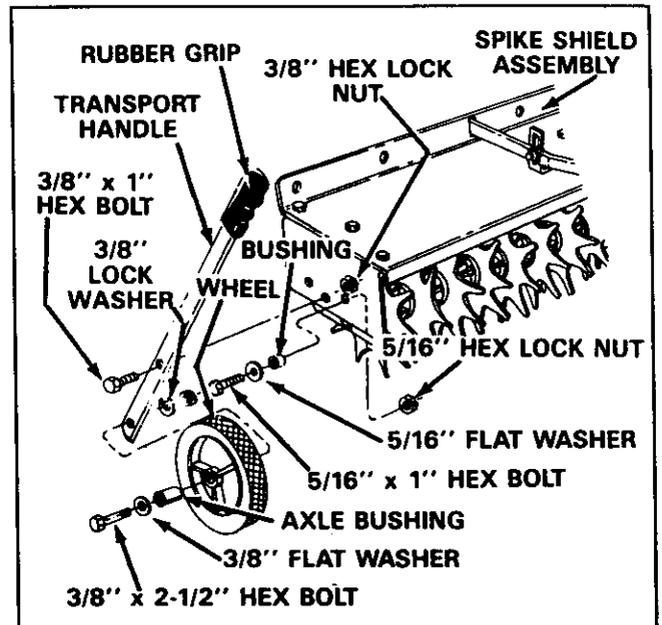
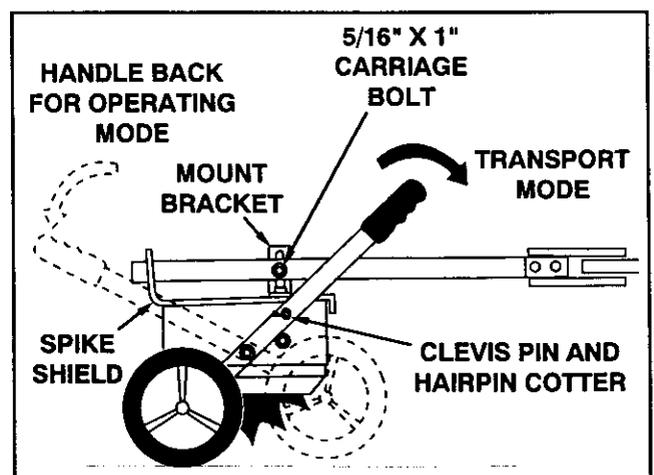

FIGURE 3
FIGURE 4
- Assemble a bushing to the bottom front hole in each end plate on the spike shield assembly. Use two 5/16" x 1" hex bolts, 5/16" flat washers and 5/16" hex lock nuts. **Tighten securely.** See figure 3.
- Assemble a wheel to the end hole in each transport handle using a 3/8" x 2-1/2" hex bolt, 3/8" flat washer, axle bushing, 3/8" lock washer and 3/8" hex lock nut. **Tighten securely.** See figure 3.
- Install a rubber grip on each transport handle. See figure 3.
- Assemble a transport handle with wheel to the bottom middle hole in each end plate as shown in figure 3. Use a 3/8" x 1" hex bolt and 3/8" hex lock nut. **Tighten**, but do not over tighten; the handle must pivot freely.
- Move each transport handle forward until it rests against the bushing assembled in figure 3. Lock the handle in this position with a clevis pin and a hairpin cotter as shown in figure 4. The aerator is now in the transport mode.
- Move the towing vehicle onto a level surface, such as a driveway or garage floor, and connect the aerator to the vehicle. See figure 4.
- Remove the clevis pins and move the transport handle toward the rear of the aerator shield until the spikes come to rest on the driveway or floor. The aerator is now in the operating mode. See figure 4.
- To level the spike shield, loosen the carriage bolts fastening the hitch mount arms to the brackets. Adjust spike shield as level as possible. See figure 4.
- Tighten the hex nuts on the carriage bolts to lock spike shield in level position. See figure 4.